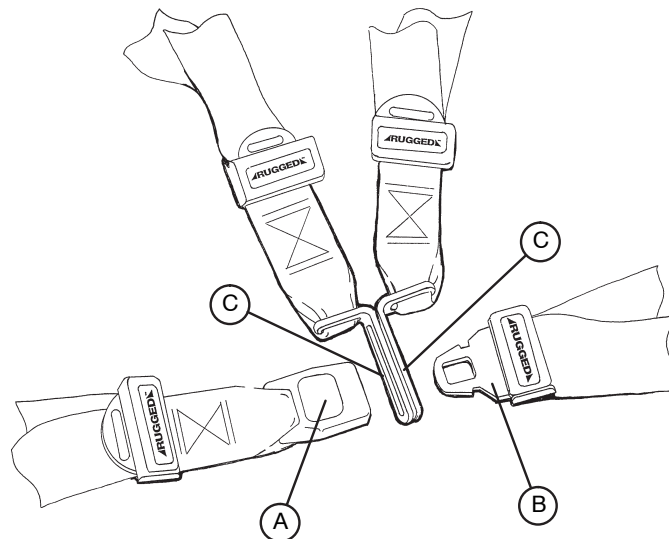

Figure 9 - Buckling the Safety Restraints
- Press the red button (A) on the front of the buckle "receiver". This releases the buckle tang" (B) which can then be pulled out of the receiver as shown in Figure 9.
- Push the tang into the receiver until a "click" is heard. When fastening the chest restraint, be sure the tang passes through both links (C) on the shoulder strap as shown in Figure 9.